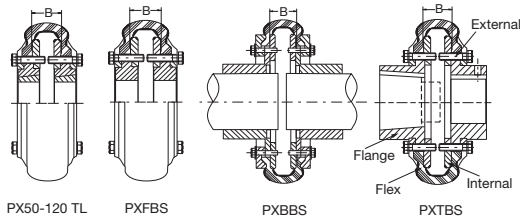

Figure 2 - Three-Piece Flange Styles
4. Referring to Figure 2 and Table 1, observe the “B” dimension for the coupling size being installed. Mount and position the flanges on the shafts so that dimension “B” is achieved when the shafts are in their final position.